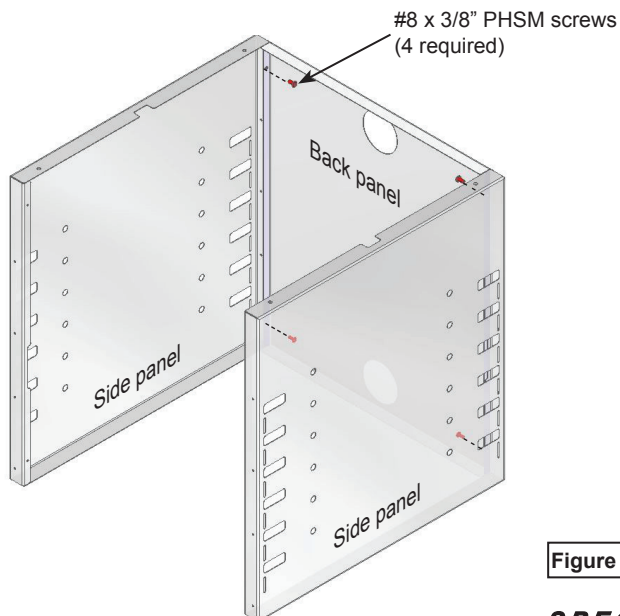

Figure 1.1
1. Attach the side panels to the rear panel with (4) #8 x 3/8" PHSM screws. **Figure 1.1.**